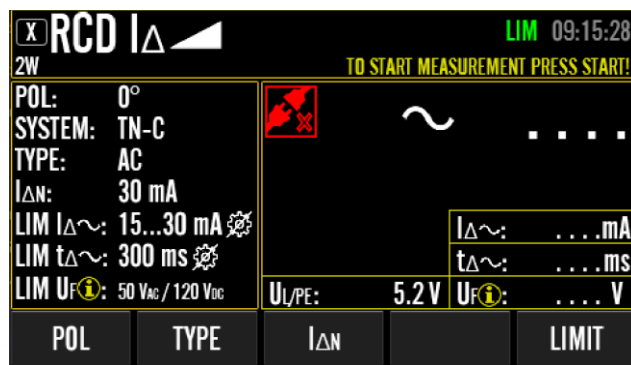

Figure 46: Idle screen in RCD I_{Δ} measurement with extended range of menu keys (after pressing “EDIT” menu key), example
- 5) Press “EDIT” menu key to get into idle screen with extended menu keys, see the figure 46 above.
- 6) Select/adjust all test parameters according to available menu keys shown on the figure 46 above.